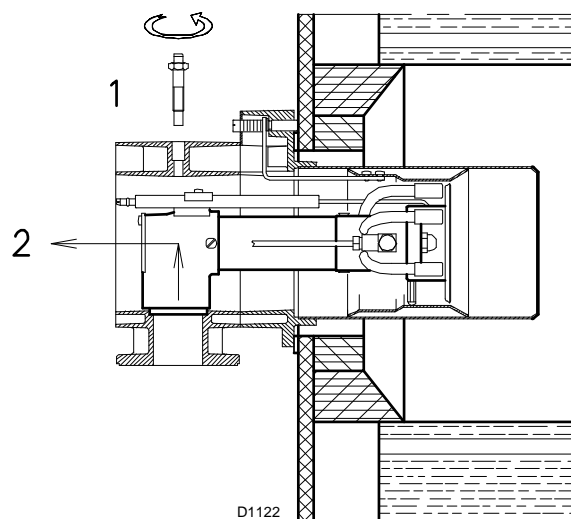

Fig. 13
- remove screw 1)(Fig. 13) and extract the nozzle assembly 2);